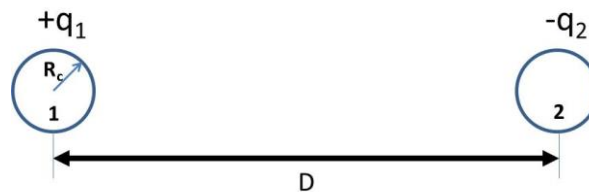

Figure B1.1 Single-phase, two wire power distribution line
- c.** Figure B1.1 shows a single-phase, two-wire power distribution line, in which the two wires have the same radius R_c and volume charge densities of $+q_1$ and $-q_2$. By application of the principle of superposition, and assuming $q_1=q_2$, derive an expression for the potential difference between the two wires. (7)
- d.** Calculate the capacitance per unit length for the arrangement shown in Figure B1.1 if $R_c=10\text{mm}$ and $D=500\text{mm}$ and that the permittivity of the region outside the conductors is ϵ_0 . (3)